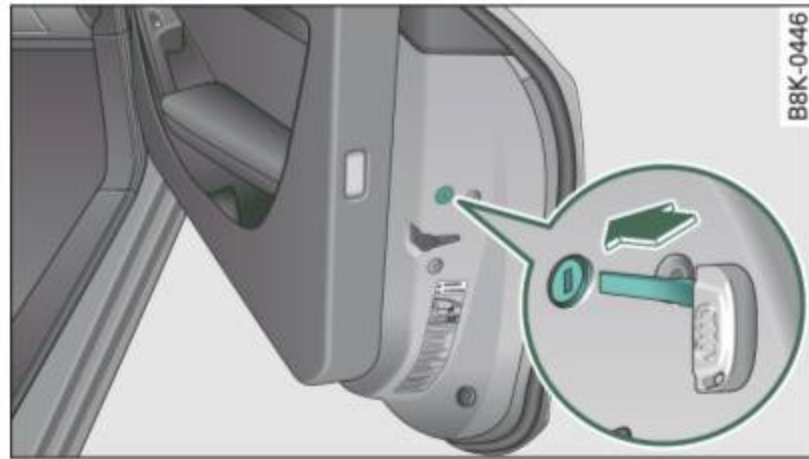

Fig. 40 Emergency locking of the passenger's door
- Pull the protective cover out of the hole ⇒ fig. 40.